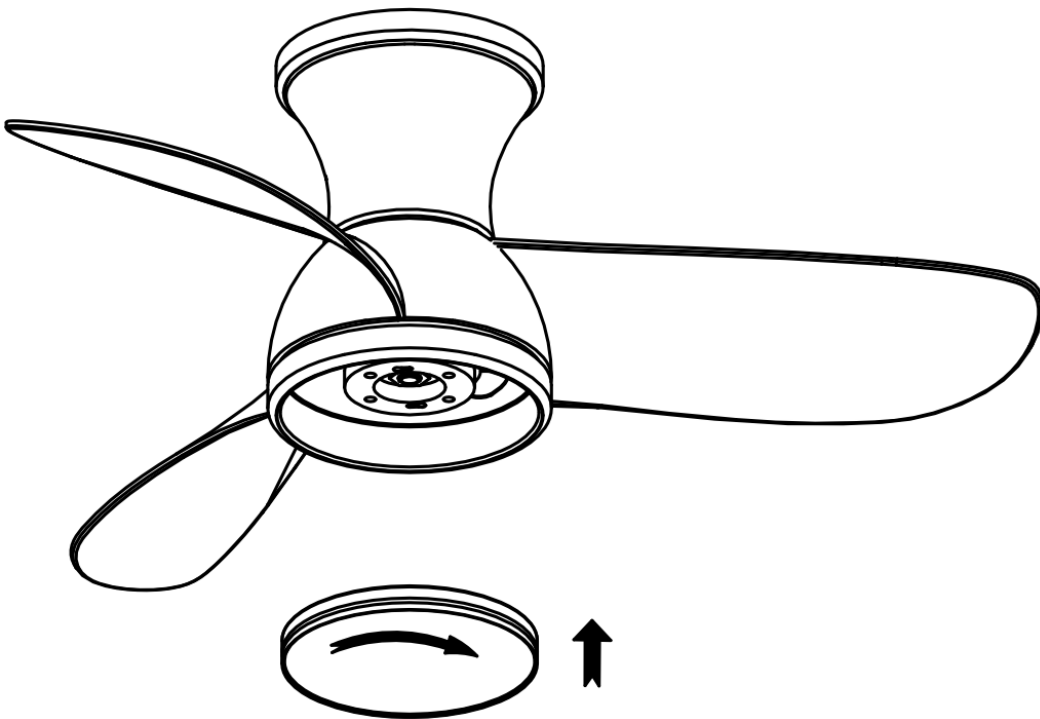

Fig. 11
INSTALLATION OF LAMP (Fig. 11)
- Install the lamp on the fan assembly then secure it by turning clockwise. (Fig.11)